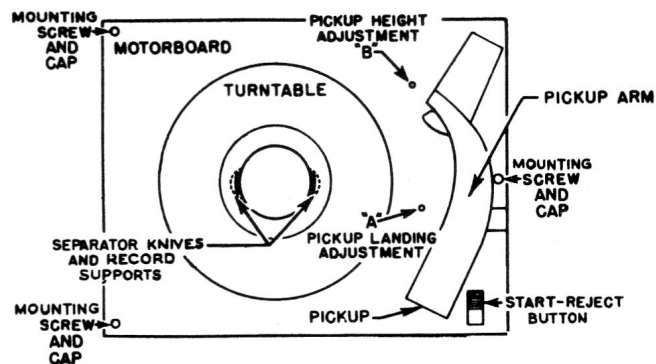

FIG. 18—TOP VIEW RP168A RECORD CHANGER
1. After the tripping adjustment has been made as described above, turn the eccentric landing adjustment stud (45C) so that the sapphire will set down on the record half-way between the outer edge and the first music groove. This position is $2 \frac{5}{8}$ " from the turntable spindle. The location of the adjustment stud is illustrated in Figure 18.
Set the mechanism in cycle. Turn the turntable by hand, until the pickup arm has reached its maximum height. By means of a screwdriver turn the height adjustment stud (45D) until the distance between the top of the turntable and the sapphire point is $\frac{3}{4}$ ". Use that position of the eccentric stud which causes the pickup arm to rise during clockwise adjustment of the stud. The location of the adjusting stud is illustrated in Figure 18.